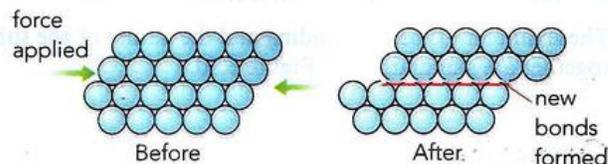

Figure 3.29: When a force is applied to a metal, the layers can slide over each other without the structure being broken.
- Metals are easily bent and shaped (**malleable**) or stretched into wires (**ductile**). The positive ions in a metal are arranged in layers. When a force is applied, the layers can slide over each other. The attractive forces in metallic bonding act in all directions to hold the structure together. This means that when the layers slide over each other new bonds are easily formed (Figure 3.29). This movement of layers leaves the metal with a different shape.